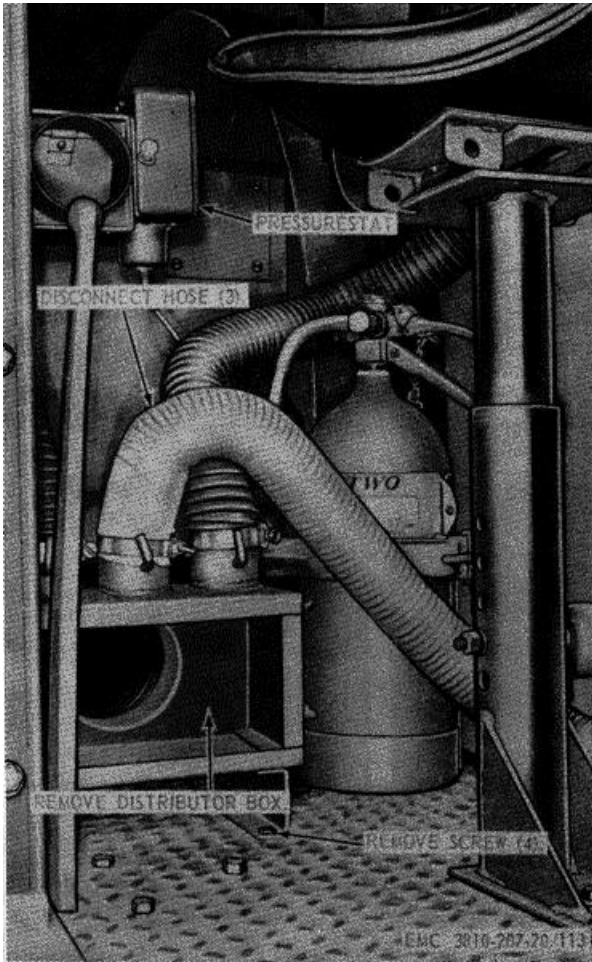

Figure 113. Distributor box, removal and installation.
- (1) Remove the hoses and clamps (par. 188).
- (2) Remove the distributor box as instructed on figure 113.
- (1) Install the distributor box as illustrated on figure 113.
- (2) Install the hoses' and clamps (par. 188).